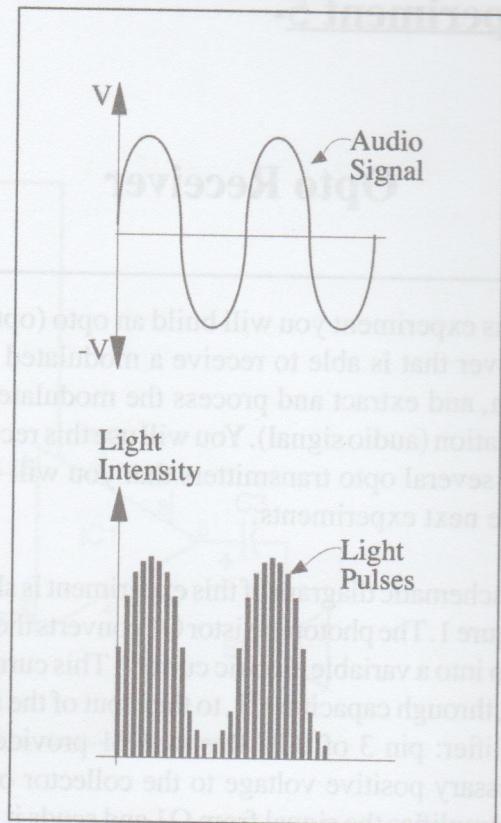

Figure 3 - Pulse Amplitude Modulation
In pulse amplitude modulation, also called pulse modulation (PM), the modulating signal controls the intensity of the pulses of light that are emitted by the transmitter. Figure 3, for example, shows an audio signal used to modulate the intensity of the pulses of light emitted by the transmitter. Notice that the intensity of the pulses of light, follows the variation in the voltage of the audio signal.